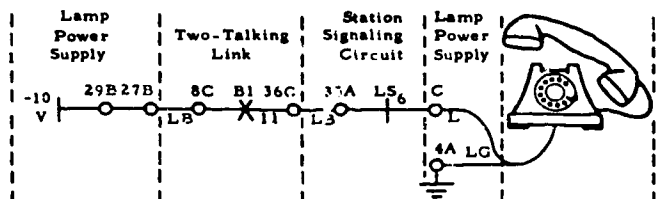

Figure 2-17. Diagram of telephone station lamp circuit.
The operated B1 relay in the link circuit completes a telephone set lamp circuit, connects ground to the operating circuit of the ST relay in the 232B KTU (providing this unit is furnished), and connects ground to the time-out (TO) relay circuit. Figure 2-17 illustrates a busy lamp circuit. Remember: the operated ST relay starts an interrupter or motor which will interrupt the lamp circuit regularly when you desire a flashing lamp. Also, we have traced the ST and TO relay circuits on foldout 3 because they were available; however, the 10B and 18A punchings (terminals) of the link circuit could be connected to any other unit containing a TO or an ST relay.